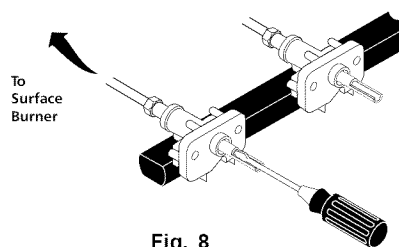

Fig. 8
- Insert a thin-bladed screwdriver into the hollow valve stem and engage the slotted screw inside. Flame size can be increased or decreased with the turn of the screw. Turn counterclockwise to increase flame size. Turn clockwise to decrease flame size. (See Figs. 8 & 9). Adjust flame until you can quickly turn knob from LITE to LOWEST POSITION without extinguishing the flame. Flame should be as small as possible without going out.